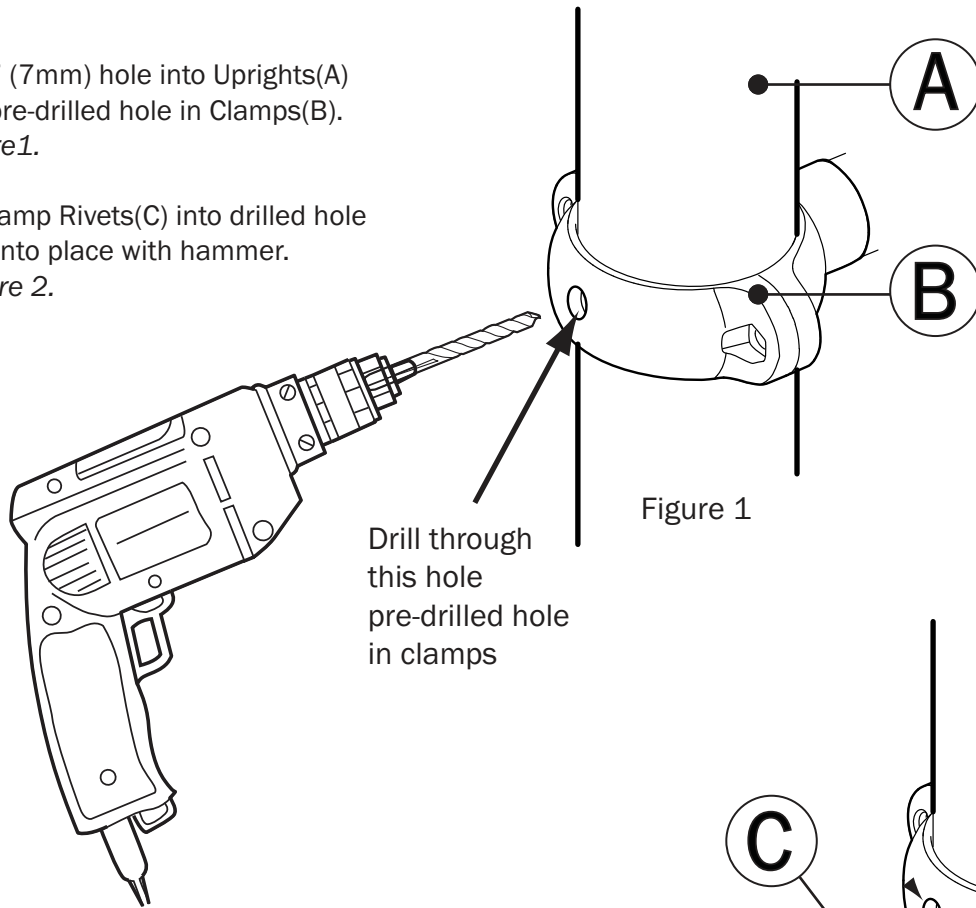

Figure 1
1. Insert Bass Drum Bracket(A) into socket of Tube Clamp(B) and secure with Bolt(D) and Lock Washer(E). See Figure 1.
1. Insert Bongos Bracket(A) into socket of Bongos Clamp(B) and secure with Bolt(E) and Barrel Nut(F). See *Figure 1*.
2. Insert (2) Bolts(G) and (2) Flat Washers(H) into holes in Mounting Bar(C), through holes in flange of Bongos(D), through holes in Bongos Bracket(A) and secure with (2) Flat Washers(H) and (2) Lock Nuts(I).
1. Lower Roof(A) onto Uprights.
2. Centered horizontally with Upright, measure 1"(25mm) up from bottom of Roof(A) and drill 1/8" pilot hole through Roof and into Upright. See Figure 1.
3. Secure Roof(A) to Uprights with (4) Self-tapping Screws(B). See Figure 1.
4. Repeat Steps 2 and 3 for remaining (3) Self-tapping Screws(B).
1. Drill 1/4" (7mm) hole into Uprights(A) through pre-drilled hole in Clamps(B). See Figure 1.